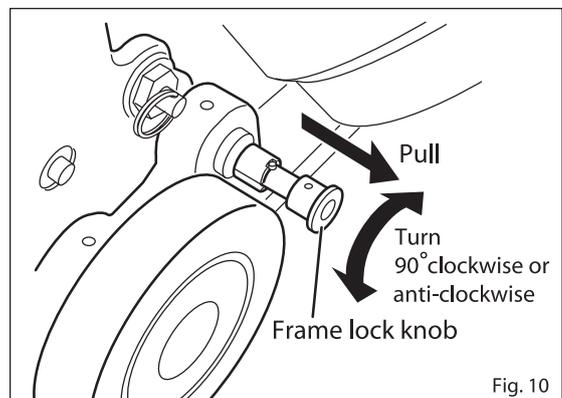

Fig. 10
2. Unlocking the Frame (Figs. 10 & 11)
(1) Pull the frame lock knob on the bottom left hand side of the motor and, at the same time, turn it 90° either clockwise or anti-clockwise. (Fig. 10)
(2) When the frame lock knob is protruding, the frame is unlocked. When transporting the unit, use the same process in reverse to lock the frame prior to transport.